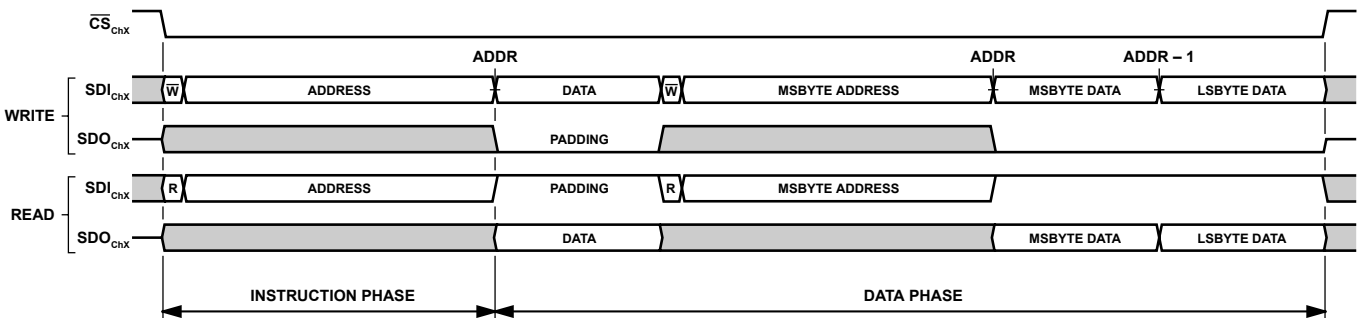
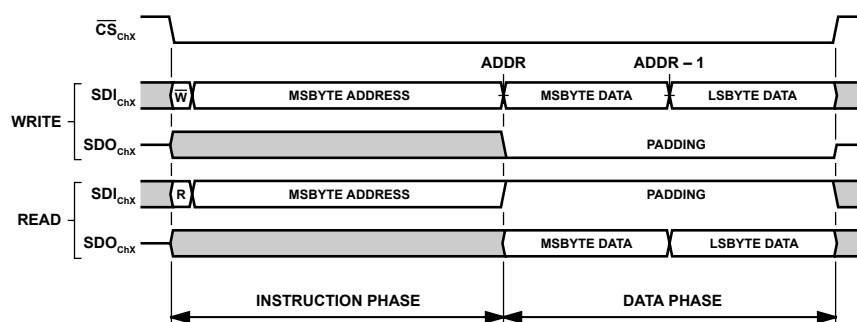
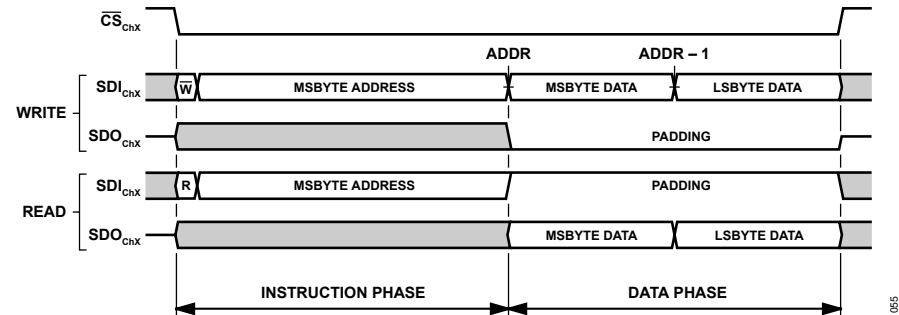
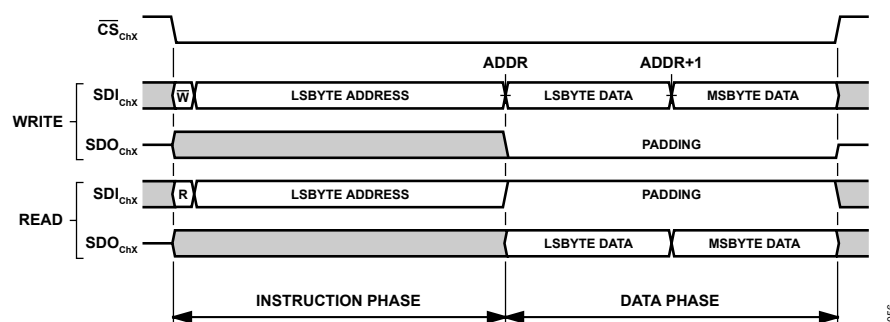

Figure 76. Interface Access Example, Default Interface Configuration, Streaming Mode (ADDR_ASCENSION = 0)
Figure 77. Interface Access Example, Single Instruction Mode (SINGLE_INST = 1), All Other Interface Options Default
Figure 79. Single Instruction Format, ADDR_ASCENSION = 0 (Descend), STRICT_REGISTER_ACCESS = 1 (Enabled)
Figure 80. Single Instruction Format, ADDR_ASCENSION = 1 (Increment), STRICT_REGISTER_ACCESS = 1 (Enabled)
Figure 76 illustrates the generic SPI frame formatting for a serial transaction using the default interface configuration. In this example, a portion of the configuration register space consisting of a byte-wide register and a multibyte register is accessed. The address for the byte-wide register resides in the most significant address (ADDRESS) and the most significant byte of the multibyte register resides in the least significant address of the register segment. By default, the ADDR_ASCENSION property is set to descending, indicating that the address for the most significant register is passed to the host controller during the instruction phase. Depending on the selected operation, the instruction word is followed by either a payload consisting of data for the byte-wide register (DATA), least significant bytes (LSBYTE), and most significant bytes (MSBYTE) of the multibyte register, or, in the case of a read access, padding bits. As a convention, it is recommended to pass Logic 1 to SDI during a read access to avoid accidentally addressing address zero for write access.
In single instruction mode (SINGLE_INST = 1), the memory access controller requires an instruction phase to transmit for each register accessed in a given SPI frame as illustrated in Figure 77. This mode is useful when access to nonadjacent sections of the register space is required in a given SPI frame. Note that, the same access flexibility can be achieved in stream mode by initiating a new SPI frame for each unique register access.
The address ascension selection (ADDR_ASCENSION) bit, as described in previous sections, determines how the internal interface address pointer is updated for each byte of data transmitted to the AD4880 channel in streaming mode (SINGLE_INST = 0). If using single instruction mode (SINGLE_INST = 1), each register is directly addressed through its own instruction phase as illustrated in Figure 77, and thus, the address pointer is not updated. Regardless of the setting for SINGLE_INST, the ADDR_ASCENSION bit directly impacts the formatting of the SPI frame in terms of selection of the instruction phase starting address and byte order of the data phase payload. This impact is described in greater detail in the Strict Access Selection and Multibyte Registers section as much of the data formatting is dependent on this interface configuration selection. The ADDR_ASCENSION selection bit is located in the Interface Configuration A register (see the Interface Configuration A Register section, Address 0x00).
As indicated in Figure 79, the address counter, by default, automatically decrements (ADDR_ASCENSION = 0) such that the most significant byte of the multibyte register is accessed first, followed by the remaining byte(s) in that register in ascending order. Conversely, if ADDR_ASCENSION = 1, the least significant byte of the multibyte register is accessed first followed by most significant byte.
As an extension of this concept, when STRICT_REGISTER_ACCESS = 1, any SPI frame that accesses a multibyte register as the first entity in the data transfer must correctly set the starting address in the instruction word to correspond to the ADDR_ASCENSION selection. In the case that the address counter automatically decrements (ADDR_ASCENSION = 0), the starting address is assigned to the register address for the least significant byte of that multibyte register, and conversely, if configured to increment automatically, the starting address must be set to the register address for the most significant byte. As a result of the change to ADDR_ASCENSION from automatic address decrement (0) to automatic increment (1), Figure 76 and Figure 77 will change as illustrated in Figure 79 and Figure 80 to accommodate the changes in data phase byte order and instruction phase multibyte register start address.